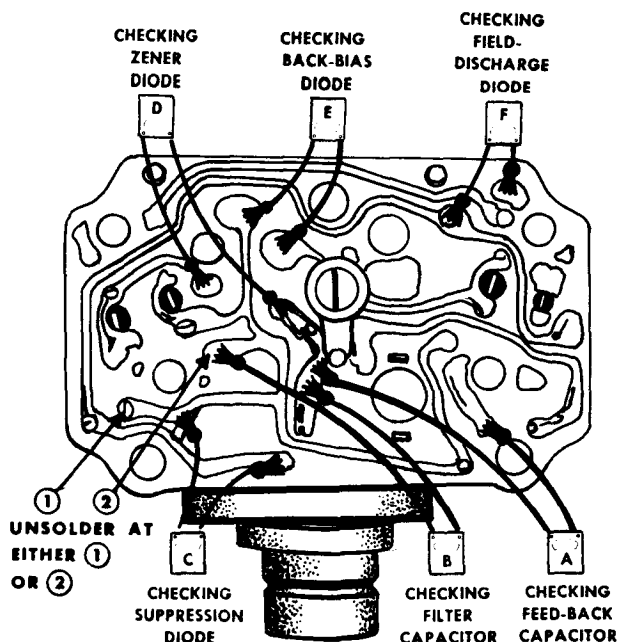

Figure 21—Checking components.
- In order to check the panel board assembly, it is necessary to unsolder the emitter-base resistor at location No. 1 or location No. 2 as shown in Figure 21. Earlier production regulators used a wire-wound emitter-base resistor soldered at location No. 1, and later regulators use a solid resistor soldered at location No. 2.
Feed-Back Capacitor, Part A, Fig. 21: If both readings are zero, the capacitor is defective. Visually inspect for open soldered connections and broken leads.
Filter Capacitor, Part B, Fig. 21: If both readings are zero, the capacitor is defective. Visually inspect for open soldered connections and broken leads. To assemble a new capacitor properly, note
Suppression Diode, Part C, Fig. 21: If the two readings are identical, the diode is faulty.
Zener Diode, Part D, Fig. 21: Replace the diode if both readings are zero, if both readings are infinite, or if both readings are identical.
Back-Bias Diode, Part E, Fig. 21: Replace the diode if both readings are zero, if both readings are infinite, or if both readings are identical.
Field-Discharge Diode, Part F, Fig. 21: Replace the diode if both readings are zero, if both readings are infinite, or if both readings are identical.